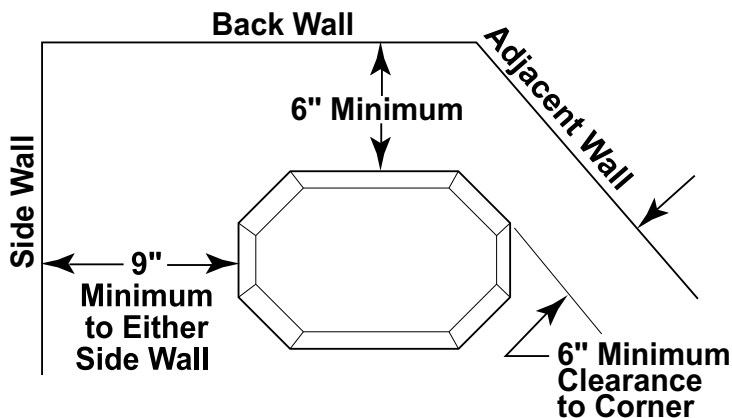

Figure 4 - Clearances to Side, Back and Adjacent Walls
- Minimum clearances to combustibles, side-wall, ceiling, woodwork, and windows **must be maintained**. See *Figures 4 and 5, page 8*.
The dimensions shown in *Figures 4 and 5* are minimum clearances to maintain in installing this heater. Left and right clearances are determined when facing the front of the heater.
- Stove must be at least 6" from the back wall. *See Figure 4.*
- Stove must be at least 9" from either side wall. *See Figure 4.*
- Stove must be at least 6" from the corner. *See Figure 4.*